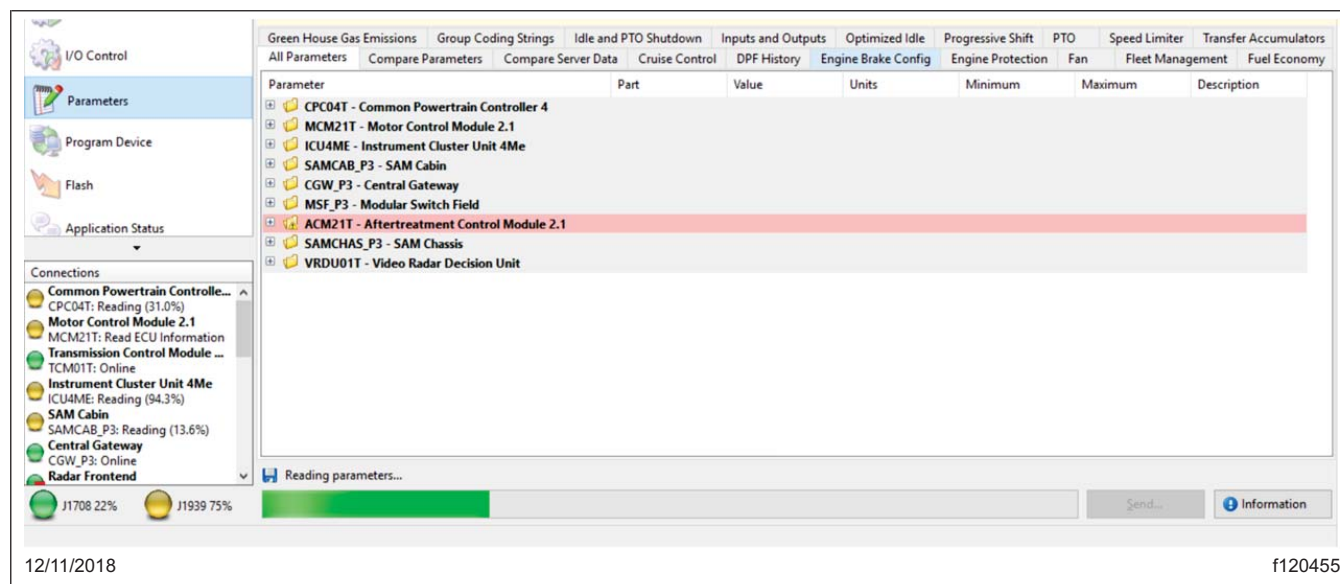

Fig. 3, Reading Vehicle Parameters on DiagnosticLink
5. Once all controllers are connected, read the vehicle parameters. See Fig. 3.